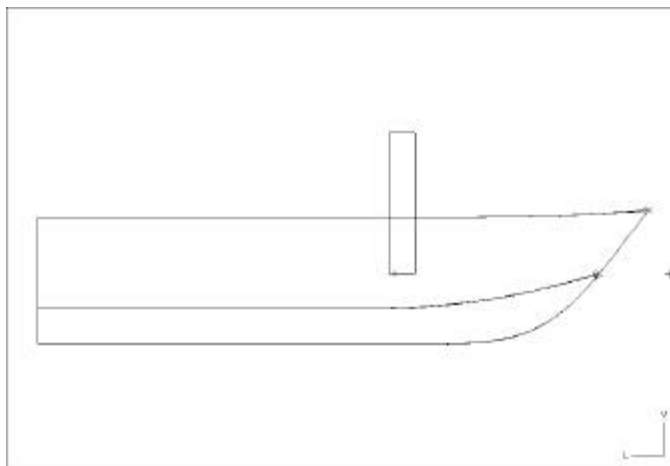

Figure 1-15: The Transom surface
2. In the *Create Surface* dialogue, select the **Extrude** tab, type the following information, and click **OK**: (see figure 1-15.)